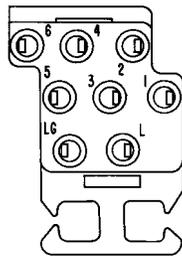

Fig. 8—508-Type Plug
**2.07 508-Type:** The 508-type (Fig. 8) are molded terminal plugs of insulating material, arranged for assembly of up to eight blade-type and cord-tipped conductors required for connections to individual buttons of key telephone sets.